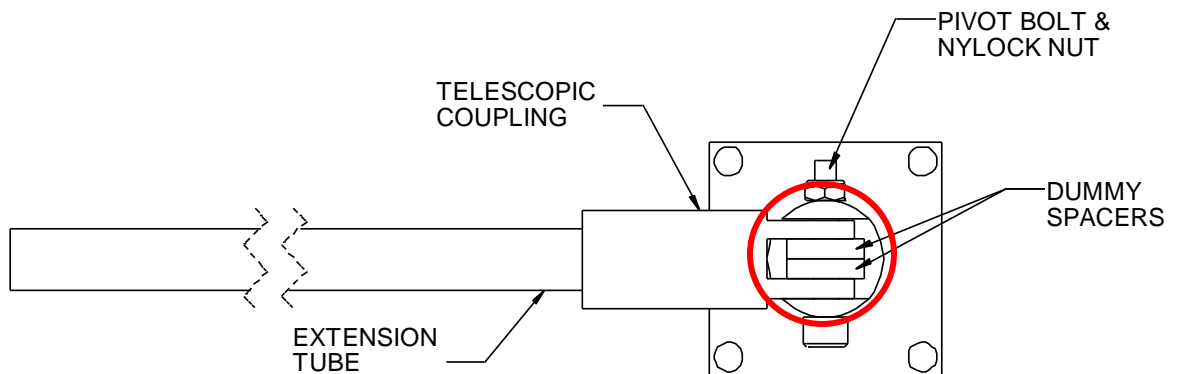

FIGURE 3-9 THE FINAL ANCHOR PLATE
- 2 Place two dummy spacers to fill the gap in the telescopic coupling (Figure 3-9).